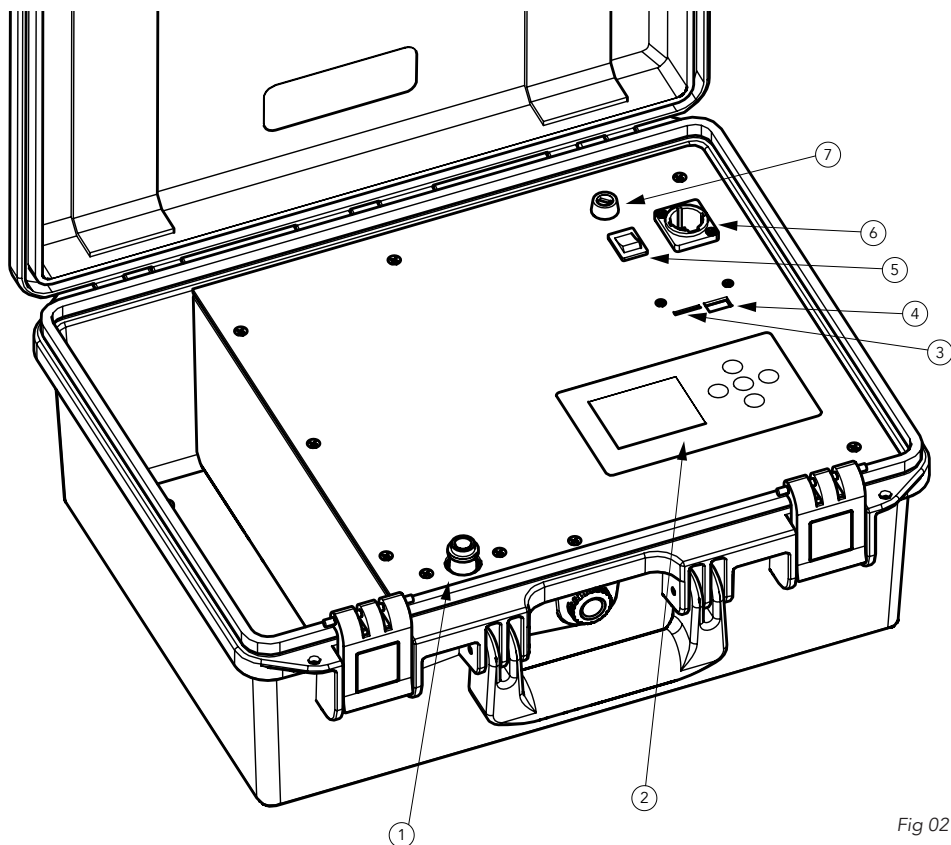

Fig 02
3. Insert the MicroSD in the appropriate slot (fig.02, page 05)